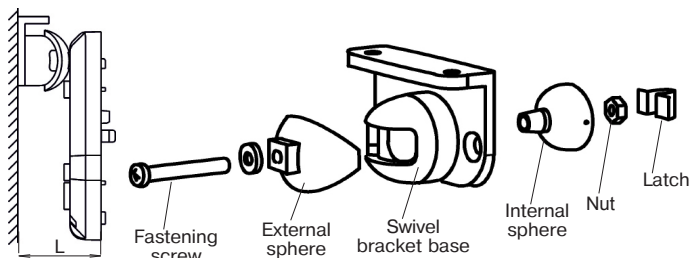

Figure 4 – Swivel bracket assembly and mounting
1. After Detector fastening on the swivel bracket, turn the Detector case in vertical plane in conformity with chosen installation height with respect to the distance (L) from the wall to the edge of the base with the put off cover (Figure 4, Table 4).